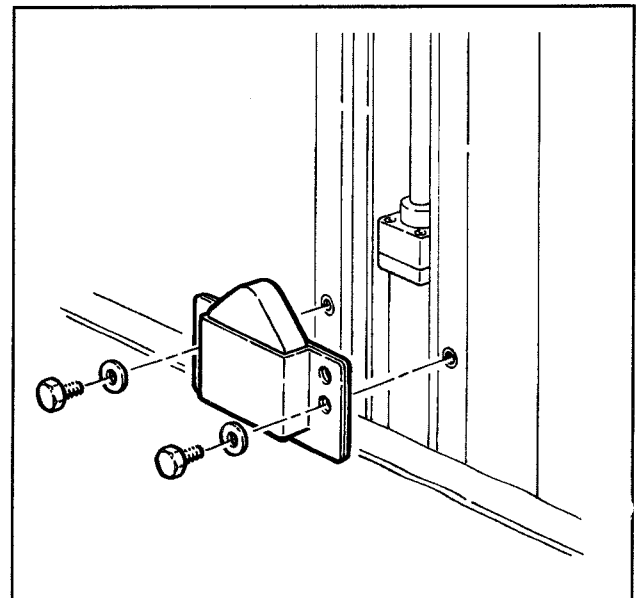

Figure 2-10 - Bumper Supports
2. Install the two bumper supports, one on each side column using **lower** holes in bracket as shown in Figure 2-10. (The upper set of holes allows the upper drive assembly to return to a lower position. However, this minimum position can only be used if the taping heads are adjusted to apply 2 inch [50 mm] long tape legs.)